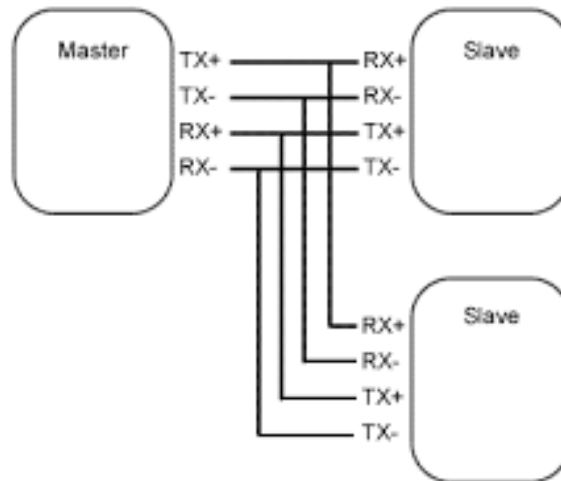

Figure 6 4-Wire RS485 Wiring diagram
- Multiple LM P RS485 devices can be connected with 4-wire RS485 as shown in figure 6.